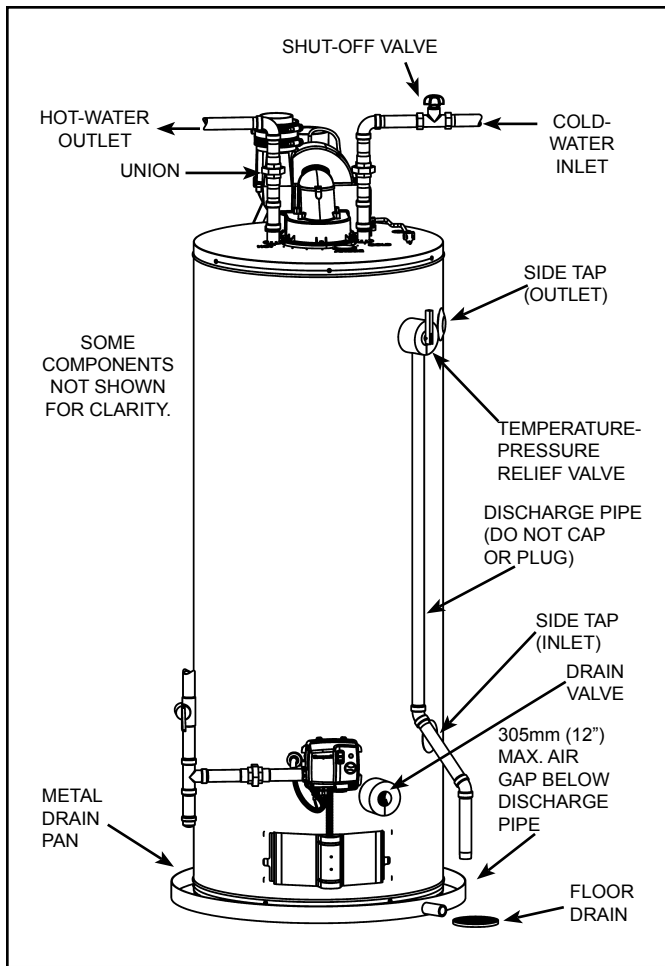

Figure 18
1. Close the water heater drain valve by turning handle to the right (clockwise). The drain valve is on the lower front of water heater (see Figure 18).